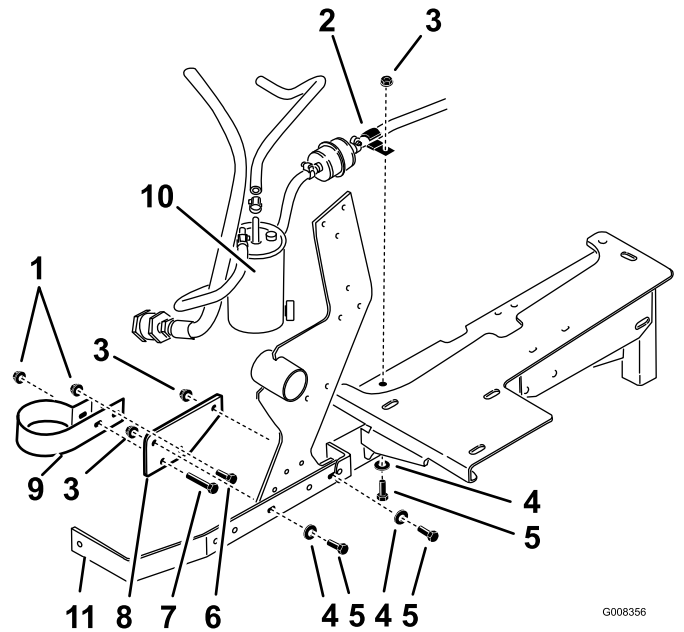
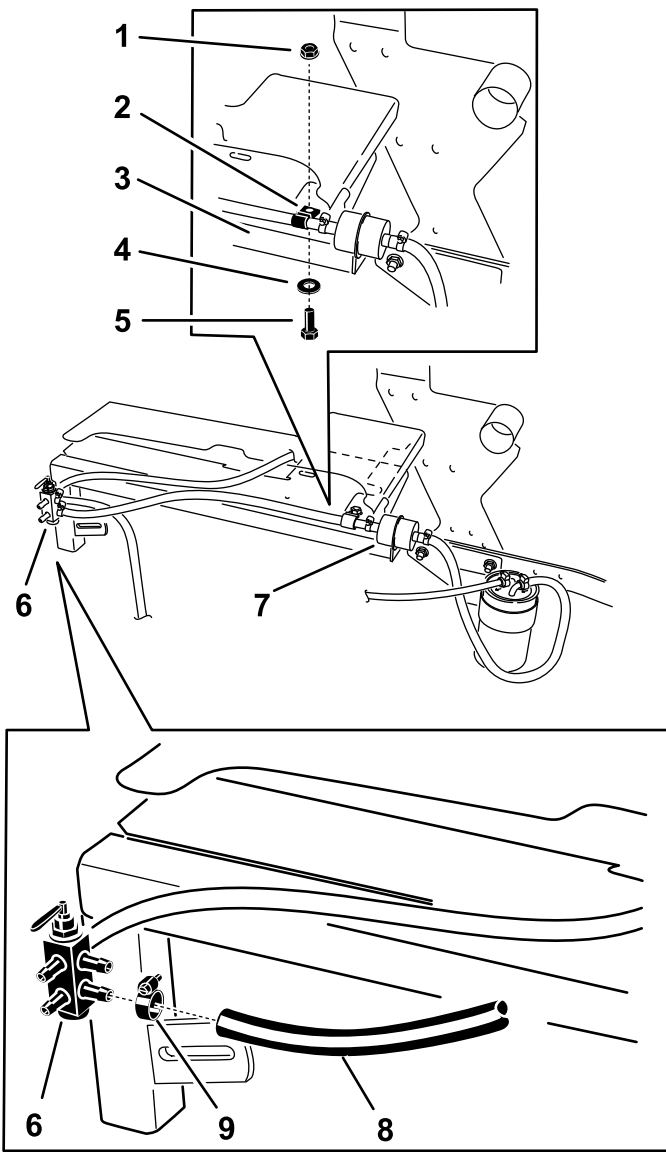

Figure 6
Figure 7
1. Remove the existing hardware from the engine strap (Figure 6).
2. Install the mounting bracket to the engine strap with the previously removed hardware (Figure 6).
3. Install the water separator into the fuel filter clamp and install it to the mounting bracket with a bolt (5/16 x 1-3/4 inches), a bolt (5/16 x 3/4 inch), and 2 locknuts (5/16 inch) (Figure 6).
2. Remove the existing hardware and install the J-clamp to the engine frame (Figure 6 and Figure 7).
3. Install the fuel hose connected to the fuel filter into the J-clamp (Figure 7).
4. Install the new fuel hose onto fuel selector valve with a hose clamp (Figure 7).